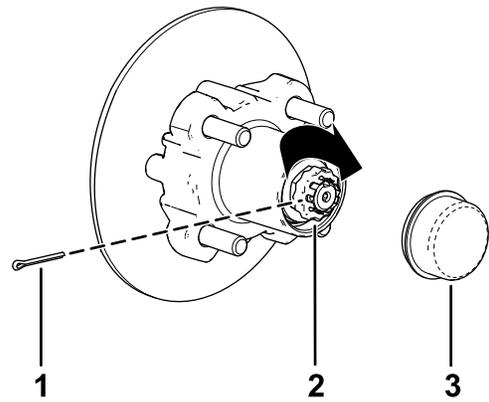

Figure 39
8. Install the retainer over the nut and check the alignment of the slot in the retainer and the hole in the spindle for the cotter pin (Figure 39).
9. Install the cotter pin and bend each leg around the retainer (Figure 39).
10. Install the dust cap onto the hub (Figure 39).